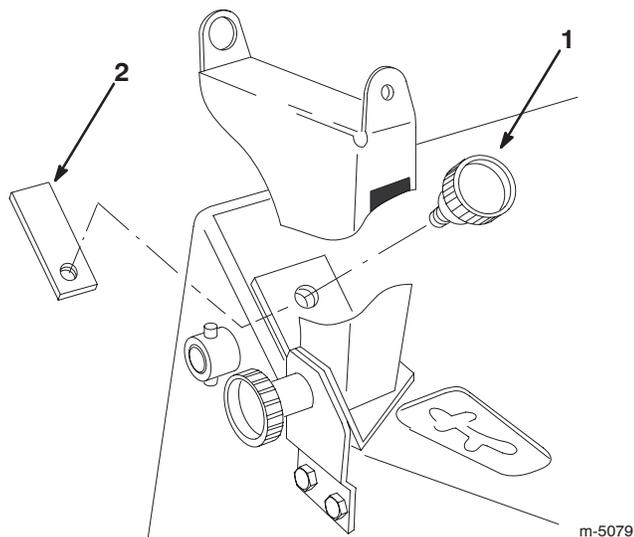

Figure 6
8. Secure the control bracket to the control panel using the other knob and the retaining plate (inserted from behind the control panel) (Fig. 6).